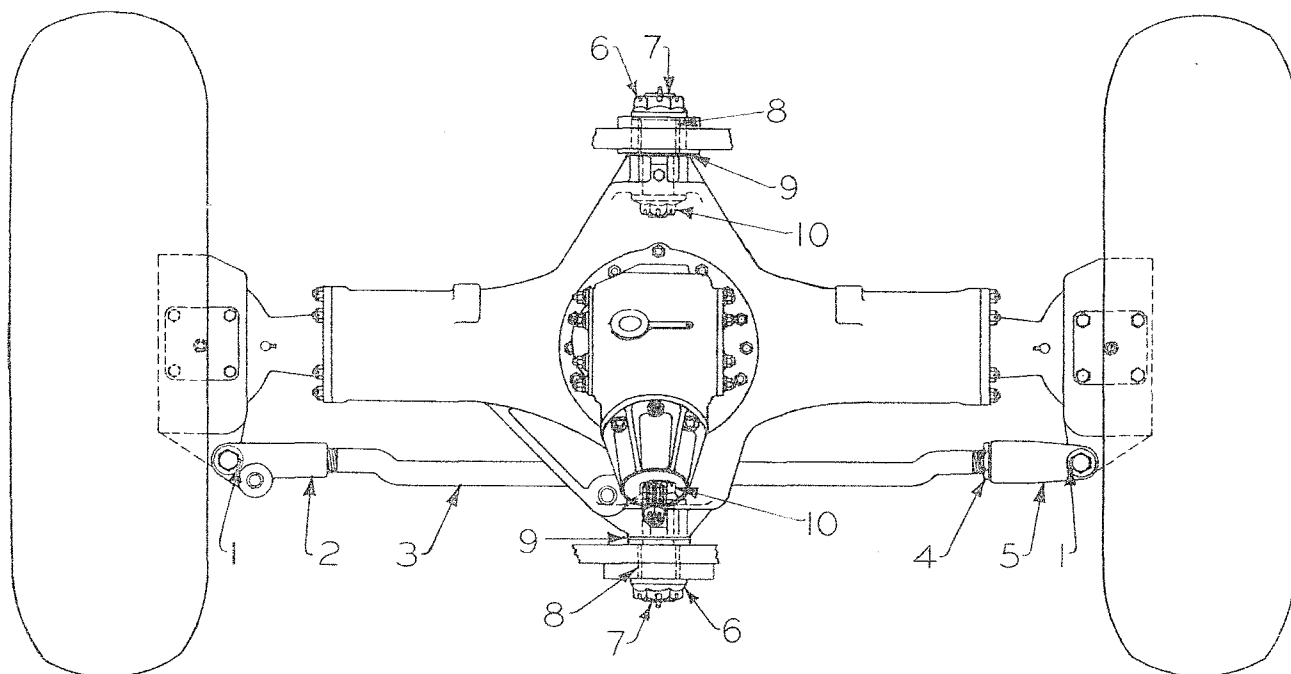

Figure 113. Front Axle
b. Remove the lock wires and nuts from the nine studs (28) in outer end of axle main housing.
c. Remove the tie rod fork bolts at (1), Fig. 113.
d. Pull the entire trunnion and knuckle flange off the studs. It may stick and require force to remove it. At this point it is well to check the seal (30), in end of trunnion socket, and replace it, if necessary. Be sure to oil it well before reassembling.
e. Remove the four cap screws from top pivot bearing cap (17) and remove the cap and shims (18), (19) and (20). Keep the cap and shims together. (It will be well to tie them together if original parts are to be reassembled again.)
f. Now remove the lower pivot bearing cap (17), following the same procedure used to remove the upper pivot bearing cap (17).
g. Slip the knuckle flange (15) off flanged (inner) end of trunnion socket (27).
h. The felt (23) can now be removed and replaced with a new one, if necessary.
(See Fig. 113)
118. *REMOVAL OF FRONT AXLE ASSEMBLY FROM FRAME.* (See Fig. 113)
e. Remove fork bolts at (1), Fig. 113.